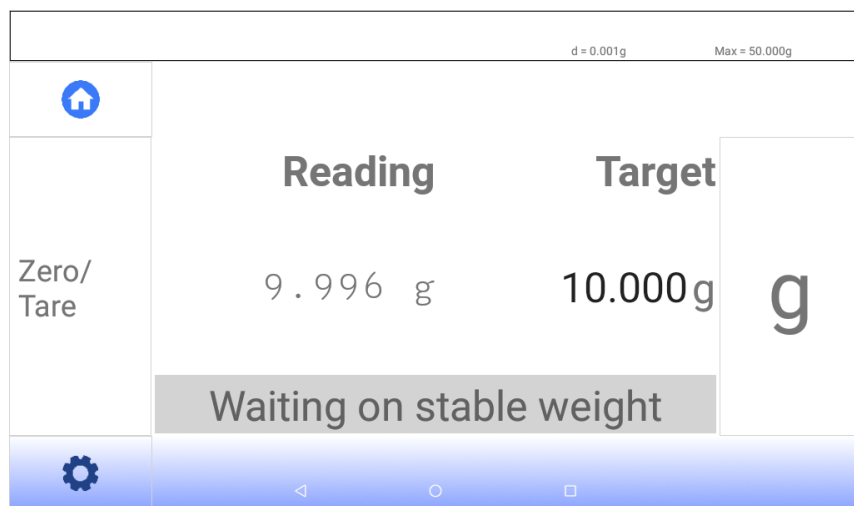

Figure 18. 10 Gram Calibration Weight Placed on Weighing Pan
5. The message “Waiting on stable weight” will appear during calibration as shown in Figure 18.